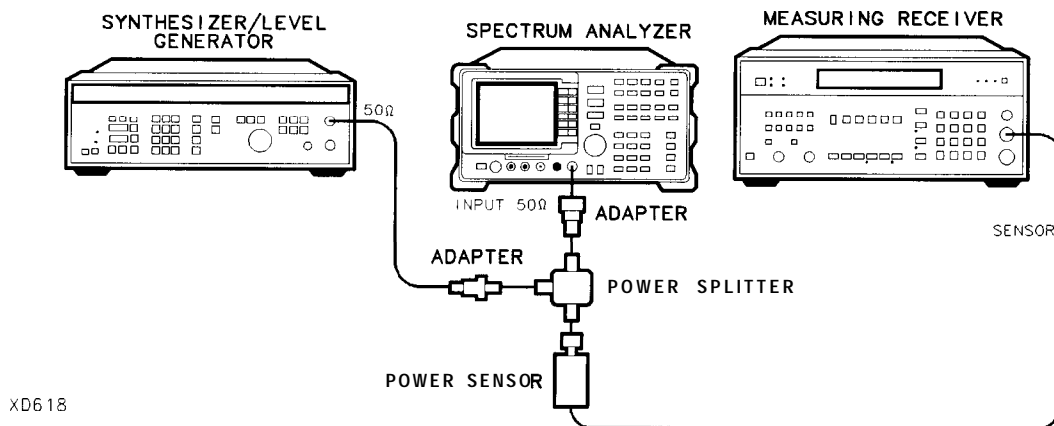

Figure 2-31. Frequency Response **Test Setup**, <50 MHz
49. Connect the equipment as shown in Figure 2-31, with the power sensor connected to power splitter.
**(MKR FCTN)** MK TRACK ON OFF (ON)